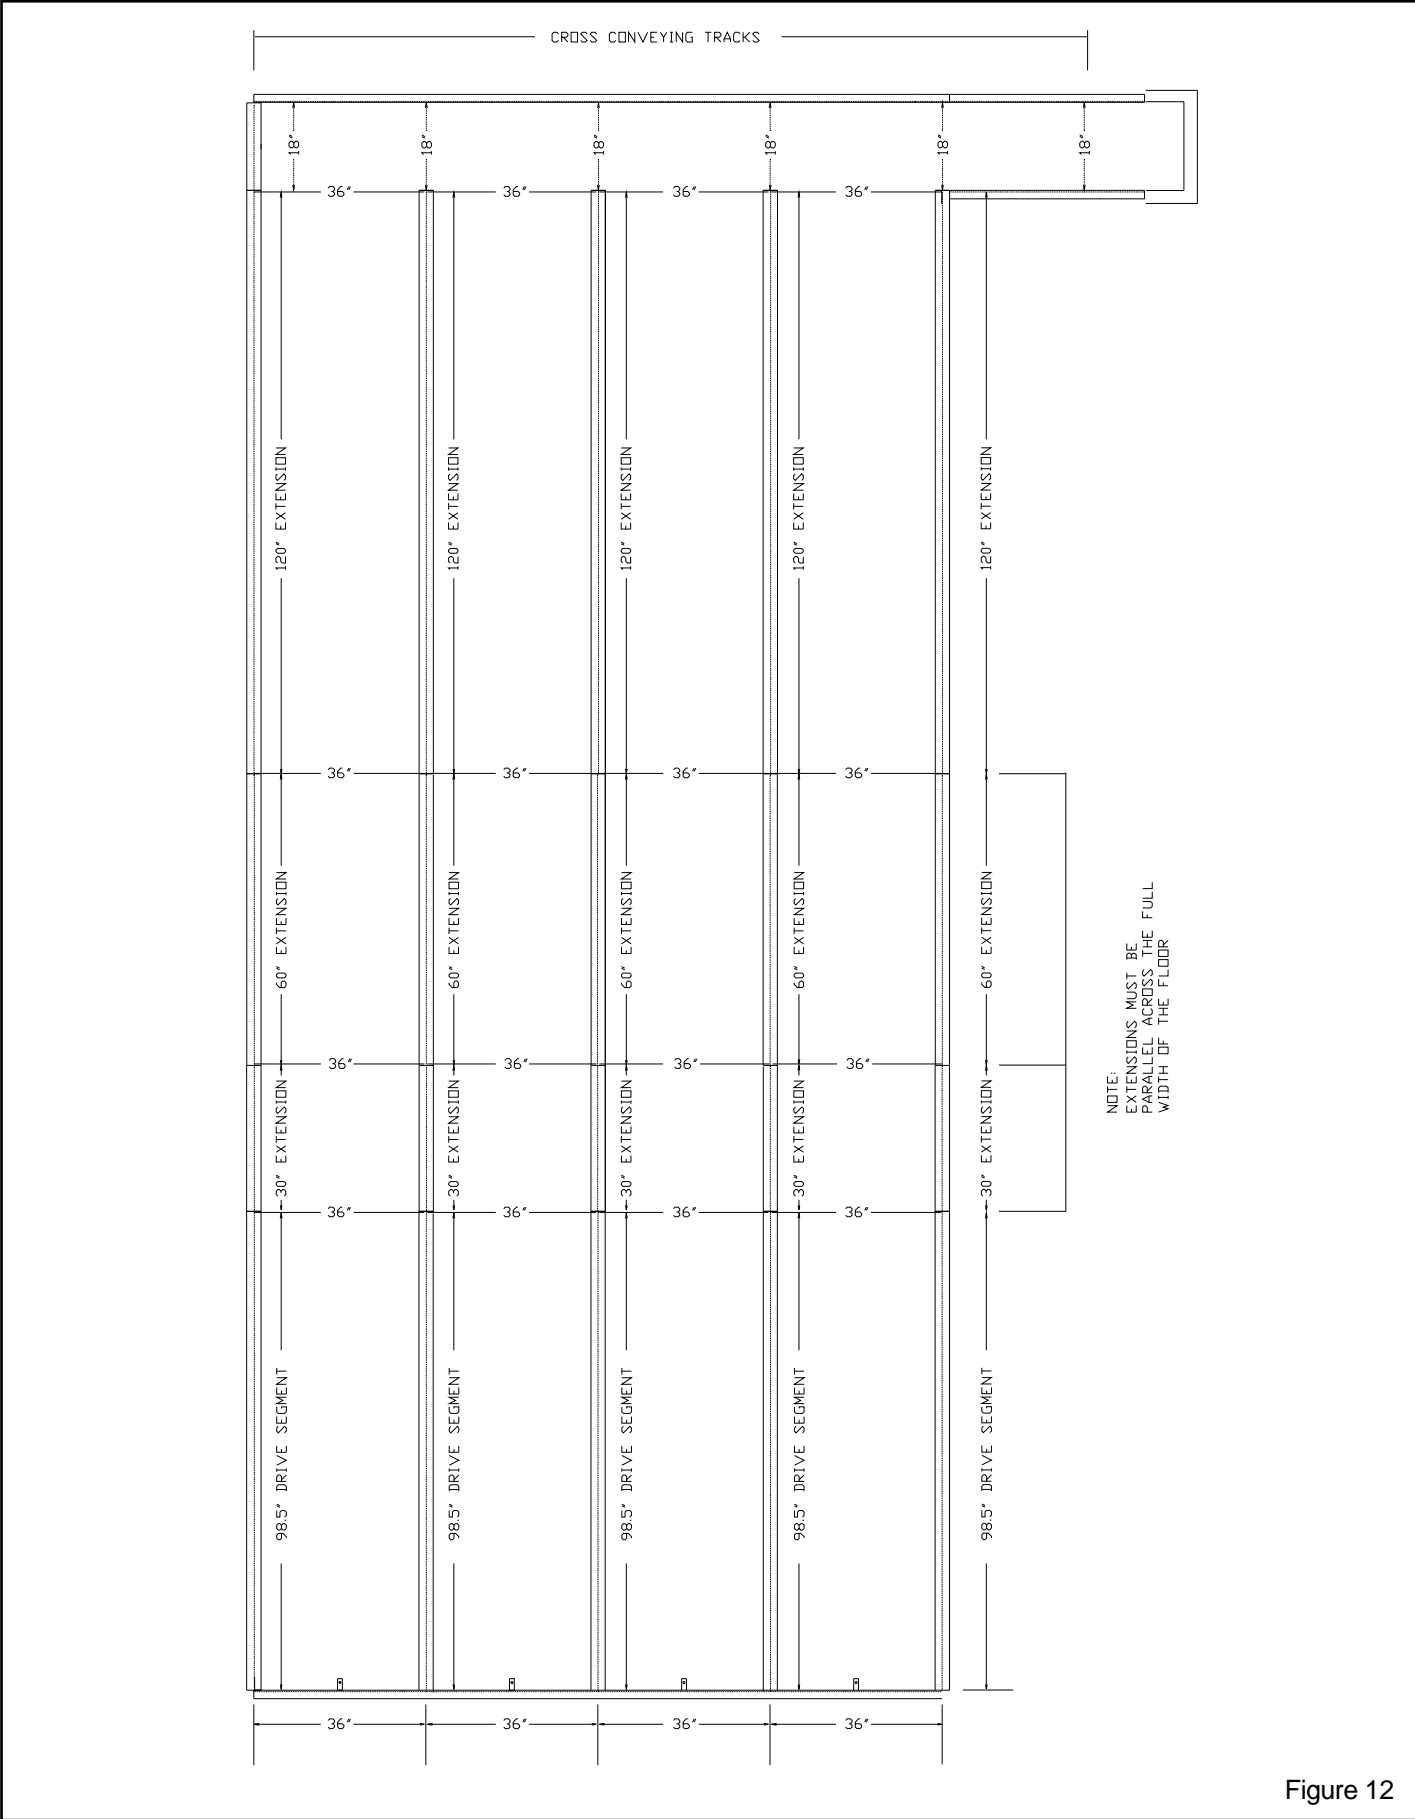

Figure 12
2.5.3 Make sure the measurement from the inside of the cross-conveyor track-channel to the front of each floor track beam is 18-inches as shown in Figure 12.